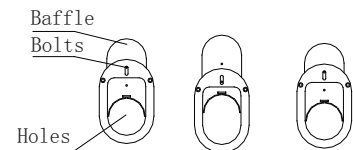

Fig.14
- Loosen the bolts, adjust the baffle position up and down, to grip the connection pipe, water drainage pipe possibly.(As shown in Fig.14)